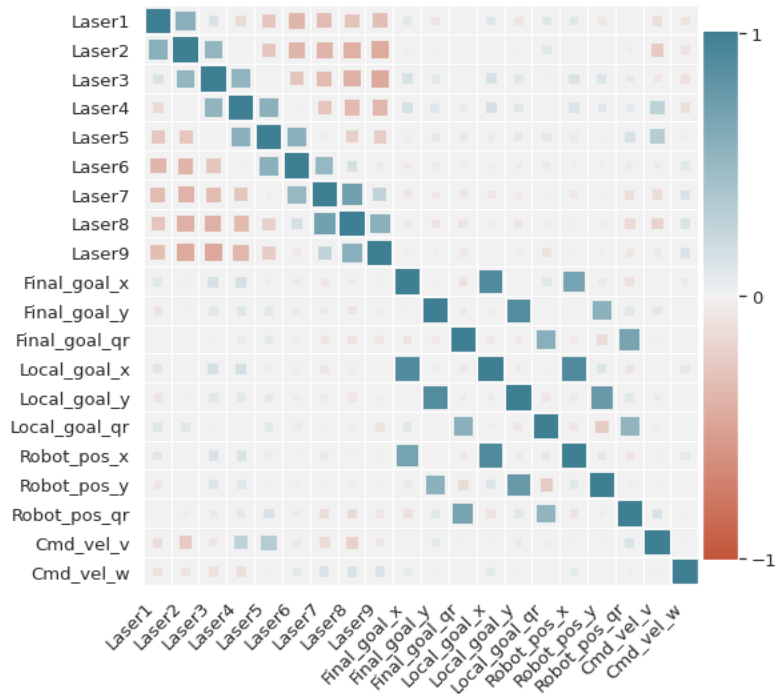

Figure 3: Correlation Heat Map
- Figure 3, however, demonstrates that all of the columns are connected.